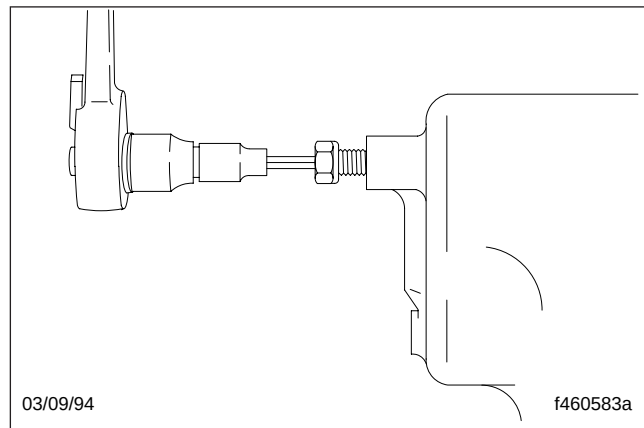

Fig. 4, Adjusting Screw and Nut Assembly
6. Using a 7/32-inch Allen wrench, turn the adjusting screw and nut assembly (without turning the nut on the screw) into the housing until the nut is firmly against the housing. Tighten the nut against the housing. See Fig. 4.